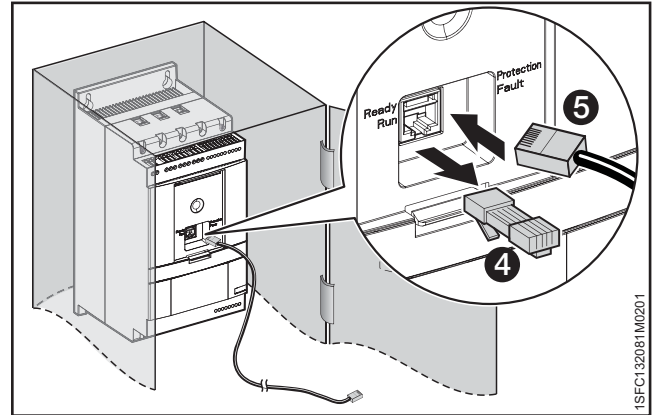

Figure 4.10
3. Remove the RJ45 plug see ❹. Connect one end of the network cable to the network port on the front of the Softstarter ❺ in **Figure 4.10**.